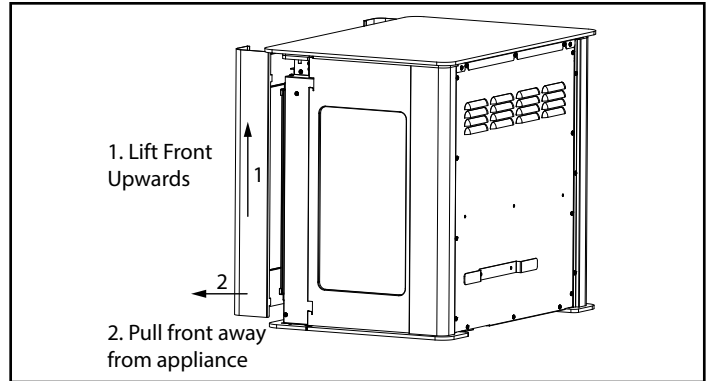

Figure 4.2 - Front Removal
3. Grasp the Front and lift up to disengage the J-hooks and pull the front away from the appliance. Place the front down on a non-marking surface, Figure 4.2.